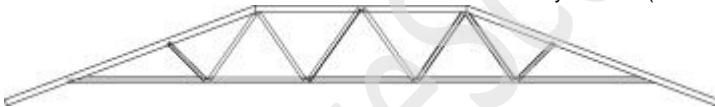

Figure 5.7 Truncated Truss/Hip Girder Truss
**5.7) Truncated Truss:** A truss of varying depth with a horizontal top chord. Truncated trusses are usually used to form a hip end. (Refer Fig. 5.7)